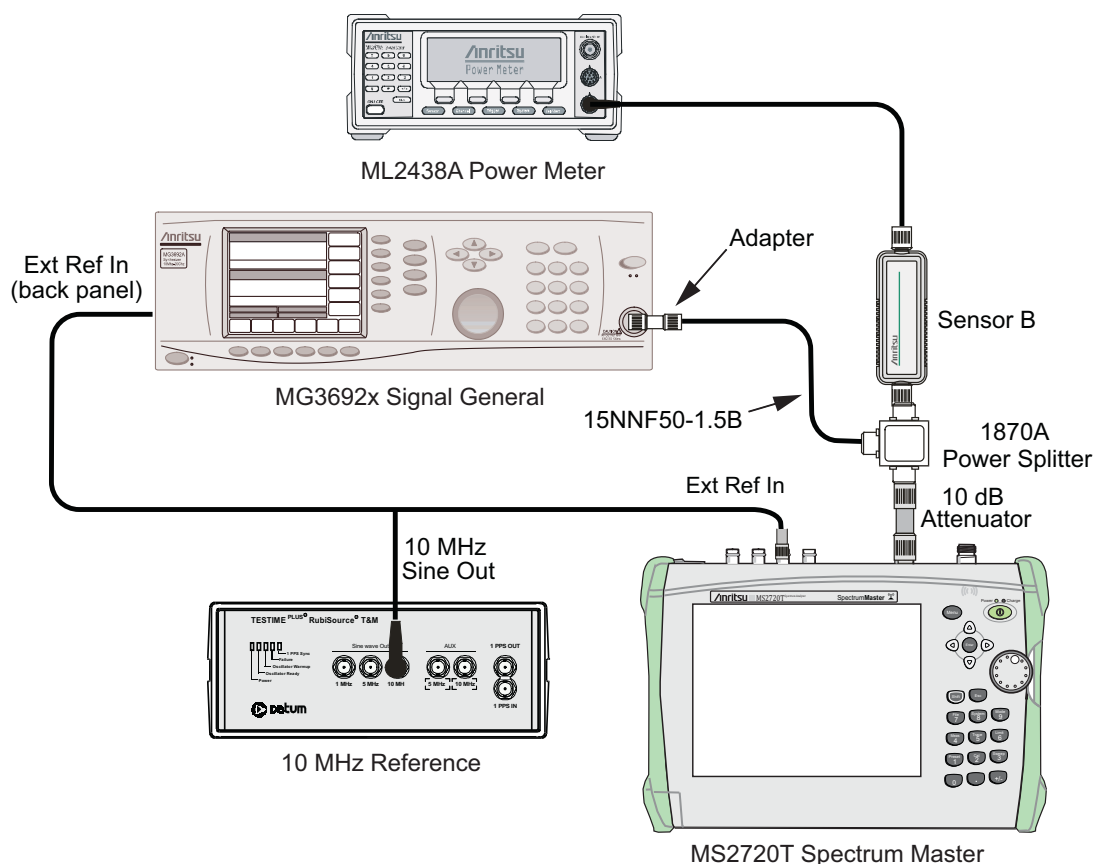

Figure 2-4. 50 MHz Amplitude Accuracy Verification, Test Setup
1. Connect the equipment as shown in Figure 2-4, disconnecting Sensor A from the Attenuator, and connecting the RF In port of the MS2720T to the splitter output via the Attenuator.